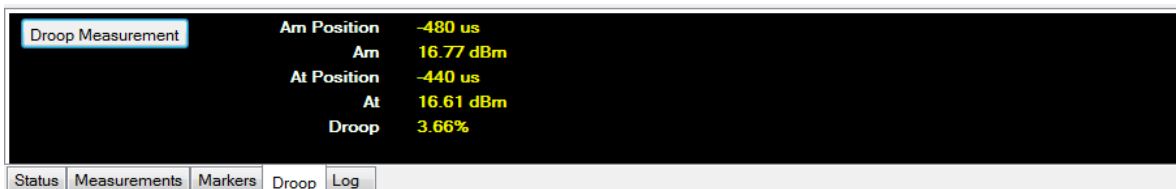

Figure 2-89 Droop measurement view on the Multi-Purpose pane
- 4 The droop measurement results will be displayed in the Droop Measurement view as shown in Figure 2-89.